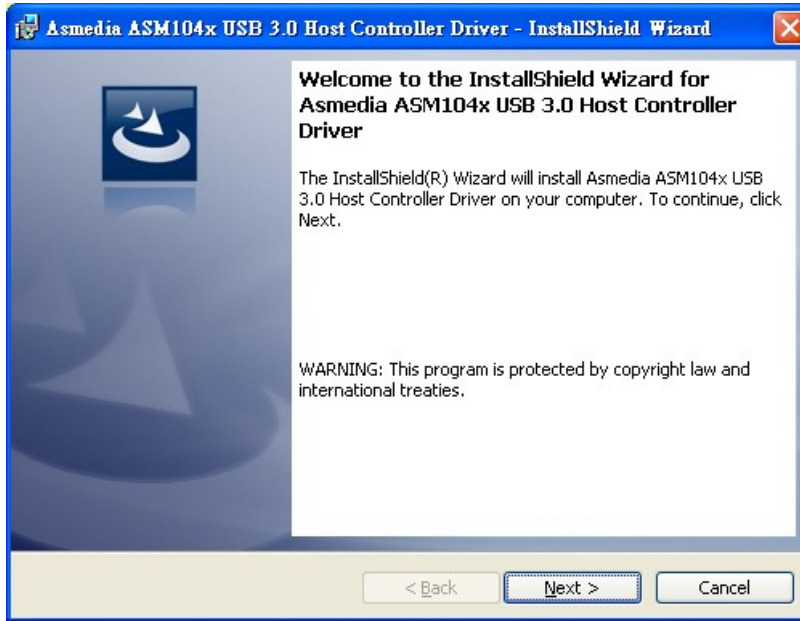

Figure 6-31: USB 3.0 Driver Welcome Screen
Step 4: A **Welcome Screen** appears (**Figure 6-31**).